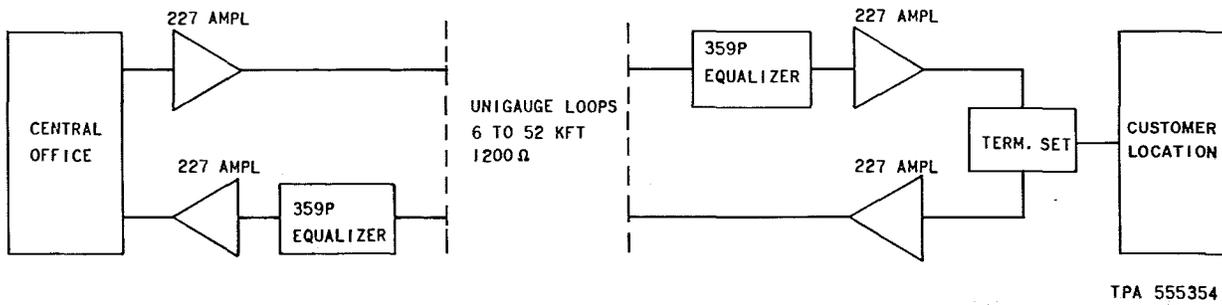

Fig. 2—359P Equalizer—4-Wire Unigauge Special Service Loops
1.02 The 359P equalizer is used in conjunction with a 227-type amplifier to provide equalization for 4-wire special service unigauge loops from 6 to 52 kft, with up to 6 kft of bridged tap at the customer location (Fig. 2).